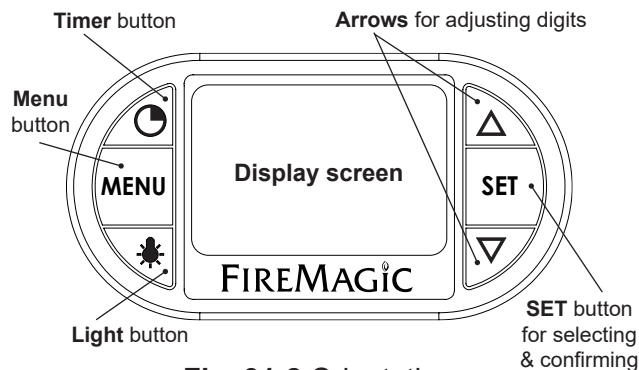

Fig. 31-2 Orientation
Read the following sections completely regarding thermometer operation. Refer to Fig. 31-2 for thermometer orientation and button locations.
1. Press the light button to turn both the interior oven lights and knob backlights ON (see Fig. 31-2). The interior oven lights will temporarily shut off when the hood is closed (except for Magic View models).